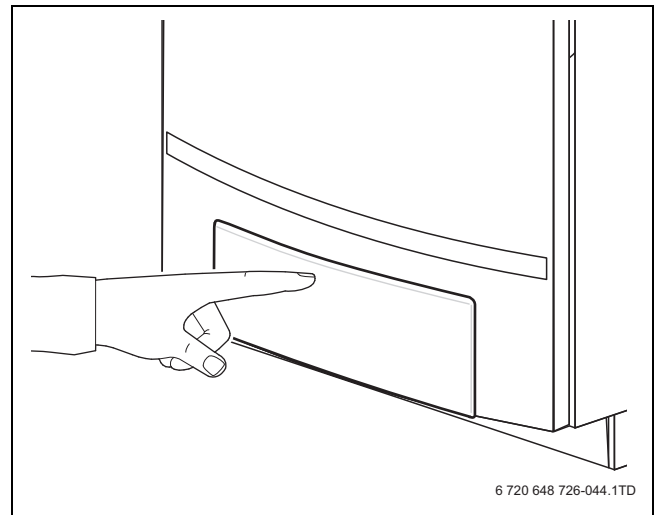

Fig. 44 Opening the control panel
▶ Push the arrow on the control panel cover to open (→ fig. 44).